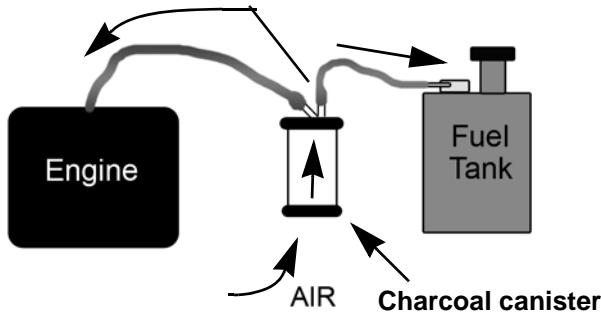

Figure 4.11
5. When the engine is running, the vacuum inside the carburetor insulator is used to draw the vapors out of the charcoal canister, temporarily enriching the fuel/air mixture, and is used in the combustion process. See Figure 4.11.